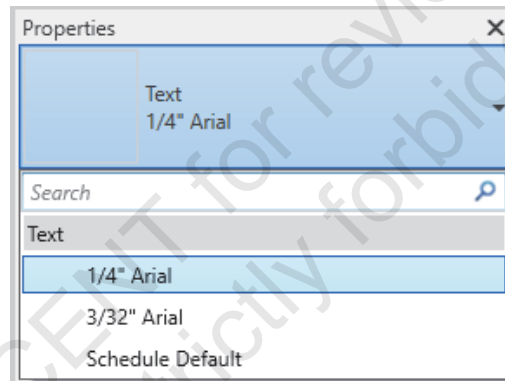

Figure 1–33
2. Expand the list in the Type Selector. Only a few text types are available, as shown in Figure 1–33.